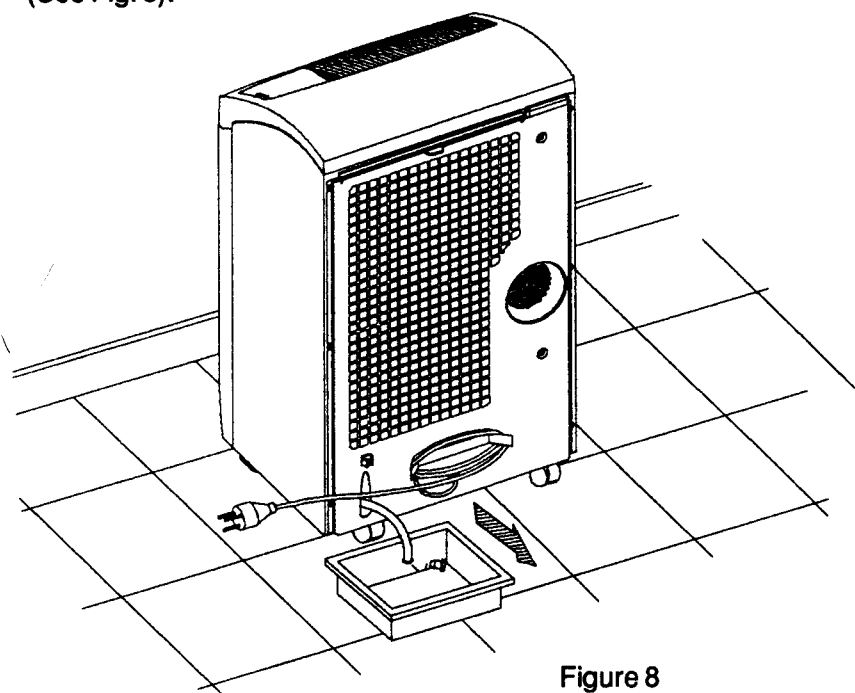

Figure 8
NOTE: At extremely high humidity conditions, operating in cooling or “dry” mode, the water basin may fill up. Indicator (12) will turn-on. At this point the unit will stop. Turn the unit off, drain the water basin and then restart the unit to resume normal operation. To drain the water basin, place a pan under the drain tube and remove the drain tube plug (See Fig. 8).